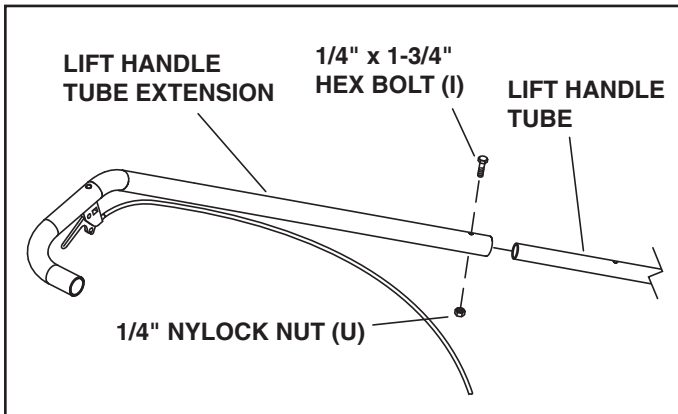

FIGURE 12
STEP 13: INSTALL LIFT HANDLE TUBE EXTENSION (SEE FIGURE 12)
- Install the lift handle tube extension on the lift handle tube using a 1/4" x 1-3/4" hex bolt (I) and 1/4" nylock nut (U).